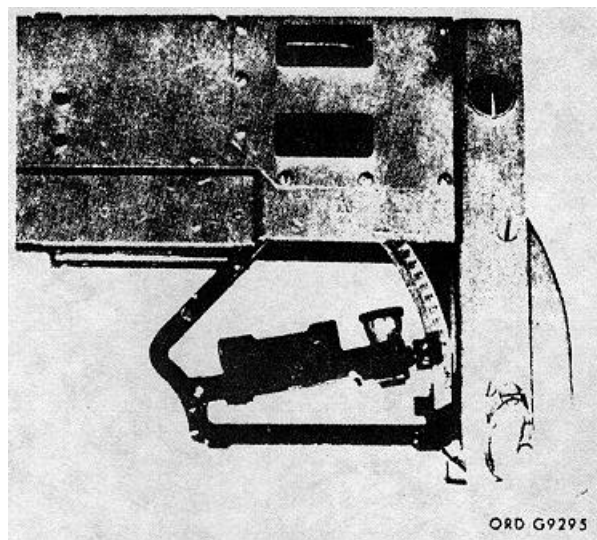

Figure 26. Setting the launcher elevation.
35. Setting the Launcher Elevation (fig. 26)
- (3) Record the mil reading set on the quadrant when the bubble is at level.
c. Holding the quadrant against the vertical plate on the launcher as indicated in figure 26,